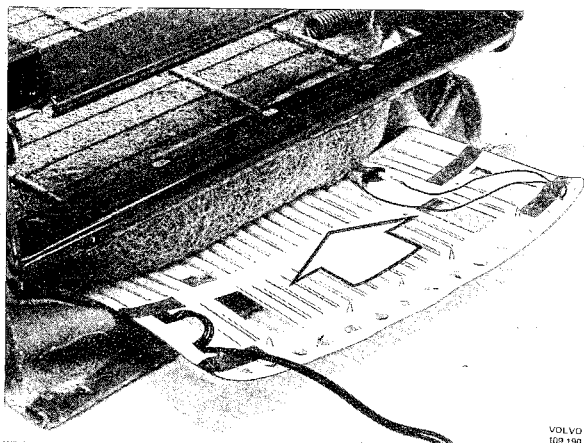

Fig. 8-52. Installing seat cushion heater pad
- D. Fit the new heater pad in the seat cushion. NOTE: The heater element barbs should point towards the padding. The heater pad electric wires should be routed towards the inboard side of the cushion, see Fig. 8-52.